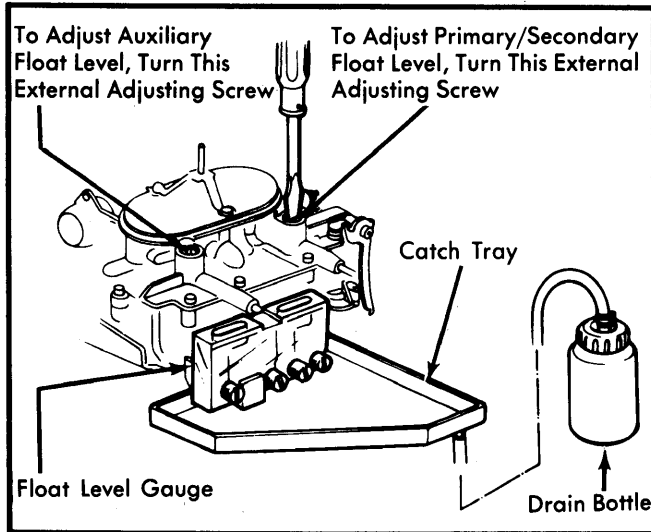

Fig. 4 Keihin Float Level Adjustment (External)
2) Start engine and allow it to stabilize. Float level should remain at red line on gauge. If not, adjustment is made by turning external float level adjusting screws. See Fig. 4.